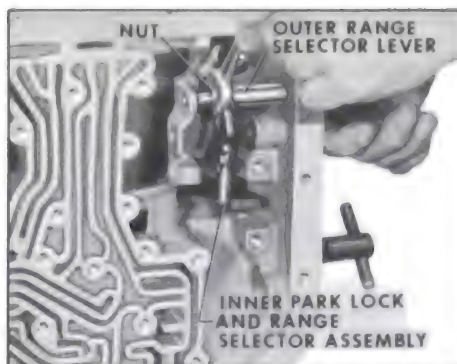

Figure 5-161
3. With a 9/16" wrench fully loosen nut that retains outer range selector lever to inner park lock and range selector lever. See Figure 5-161.